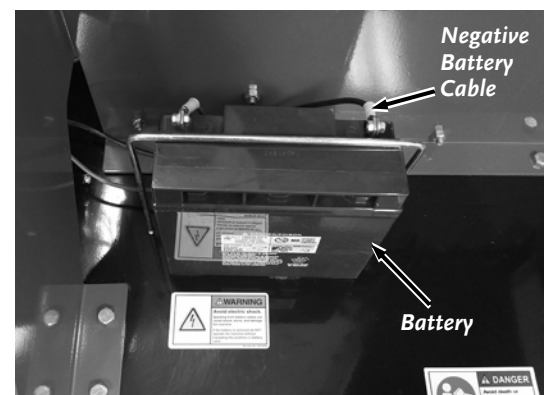

Figure 20
1. Connect the Negative Battery Cable onto the Negative Terminal Lug of the Battery with the existing Bolt, Washer and Nut using a 5/16" Wrench and a Phillips Head Screwdriver (Figure 20).